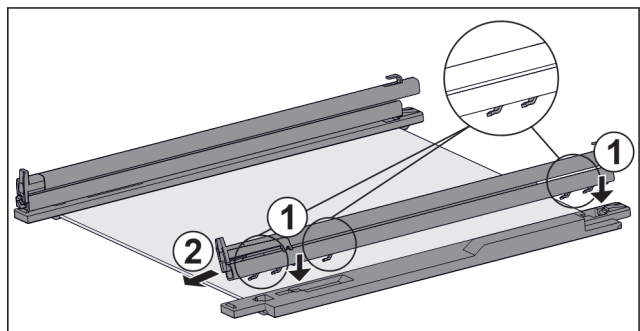

Fig. 63 Glass shelf with rails and retaining parts
- ▶ Place rail hooks onto the openings of the **left** retaining part. Fig. 63 (1)
- ▶ Push rail forwards. Fig. 63 (2)
- ▶ Place rail hooks onto the openings of the **right** retaining part. Fig. 63 (1)